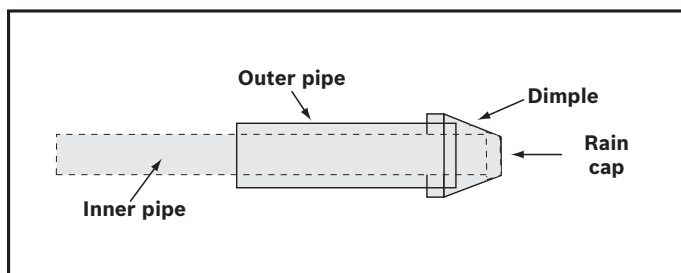

Fig. 4 Dimple location
1. Locate the drill location dimple on the outside of the rain cap (See Fig. 4).